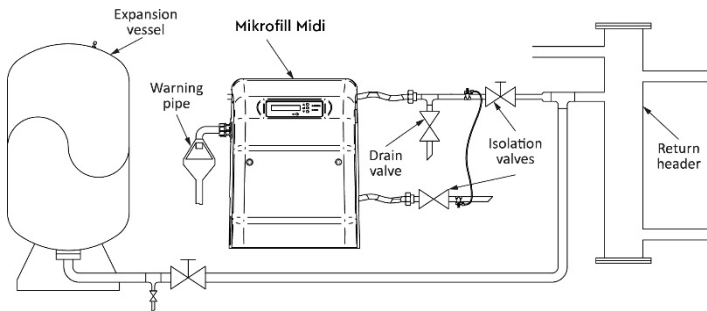

Fig. 12
2. Isolating valves **MUST** be installed on the unit inlet and outlet before connection to the flexible hoses to allow the unit to be isolated if required. The isolation valve on the outlet should be of a lock-shield type. See Fig. 12.
3. A drain valve must be fitted on the outlet of the unit before the isolation valve. See Fig. 12.
9. The unit should be connected to the system return header along with the expansion vessels as specified in BS 7074. See Fig. 12.